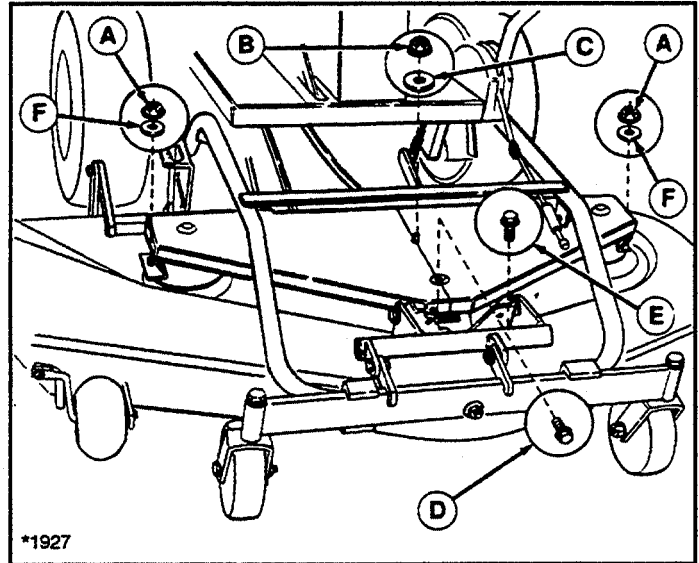

Figure 37. Belt Covers
8. Remove belt covers. See figure 37.
2. Remove belt covers. See figure 37.
- Install belt covers. See figure 37. Make sure covers and deflector are properly installed before operation.